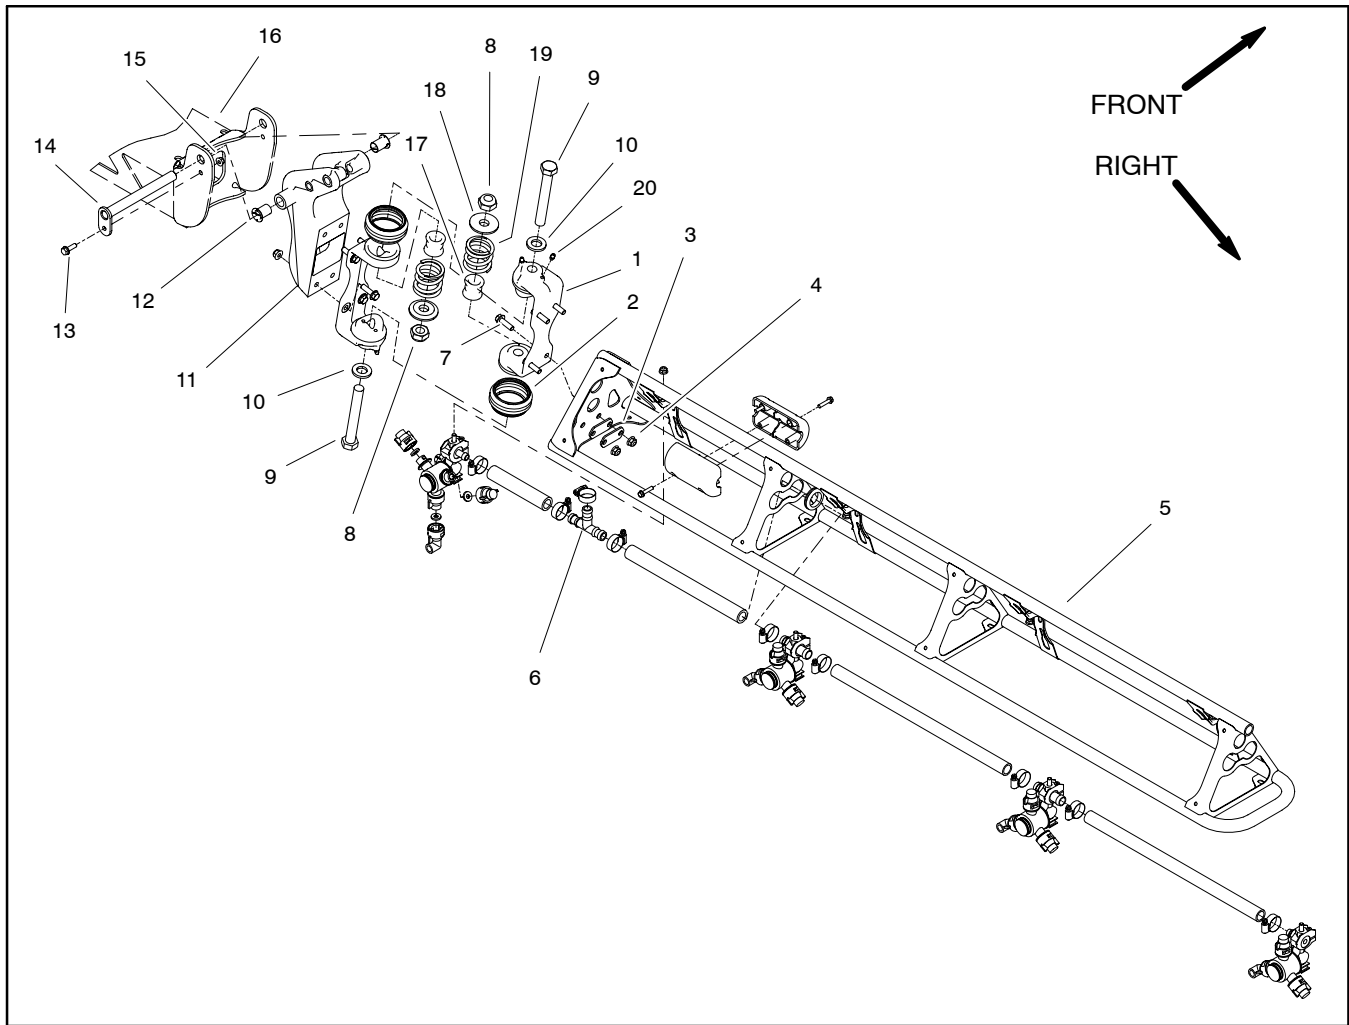

Figure 47
Disassembly (Fig. 47)
2. Loosen hose clamp and remove supply hose from tee fitting (item 6) on spray boom.
4. Loosen two (2) cap screws (item 9) and lock nuts (item 8) to allow breakaway springs (item 18) to fully extend.
5. Complete disassembly as required using Figure 47 as a guide. If pivot bracket (item 11) is to be removed from machine, disconnect boom actuator (not shown) from pivot bracket (see Boom Actuator Removal (Machines with Serial Numbers Above 260000000) in this section).
Assembly (Fig. 47)